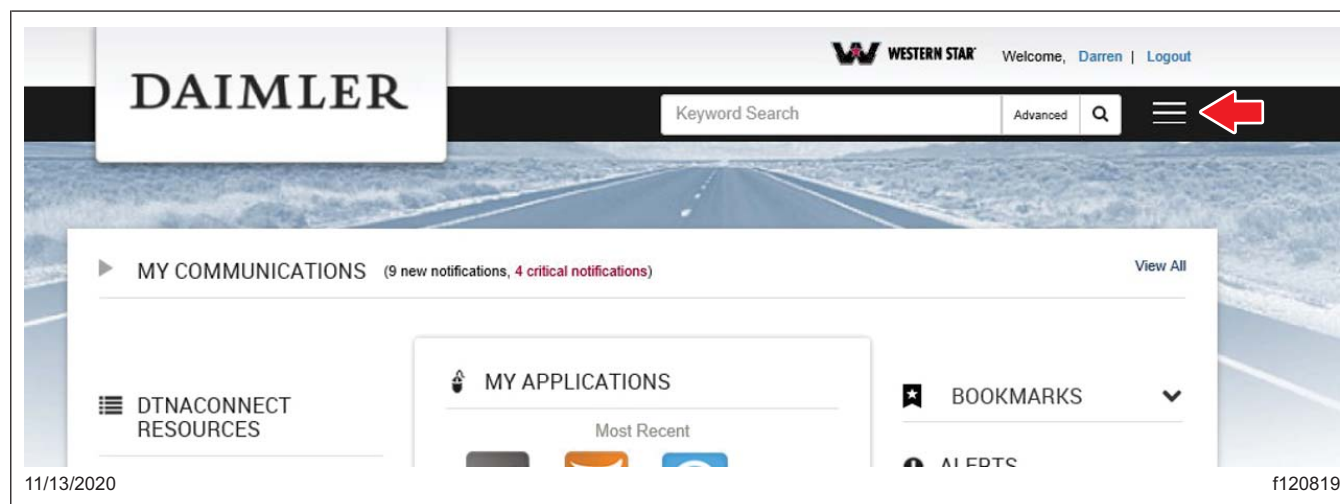

Fig. 1, DTNA Connect Home Screen
2. On the laptop, go to DTNA Connect, then select the three menu bars at the upper right-hand corner of the web page. See Fig. 1.